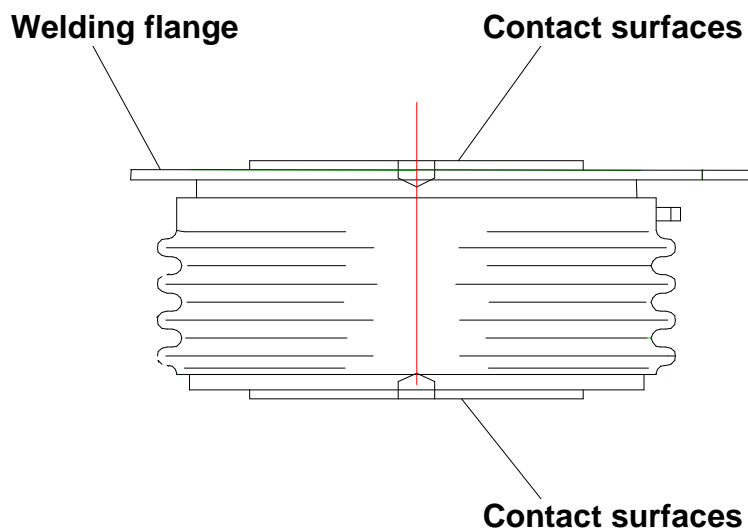

Fig. 1
- ◆ There must be no damage to the welding flange or to the contact surface. See fig. 1.